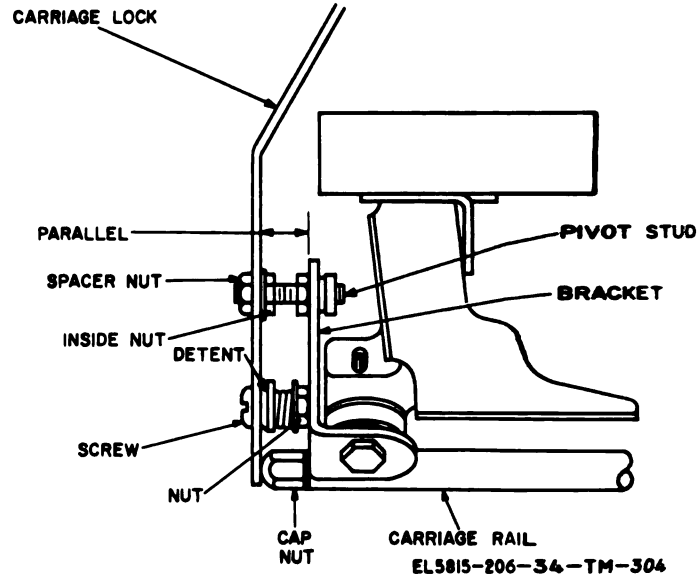

Figure 3-232. Carriage-lock-lever adjustment (TT-537/G ).
**3-269. Carriage-Lock-Lever Adjustment (TT-537/ G) (fig. 3-232)**